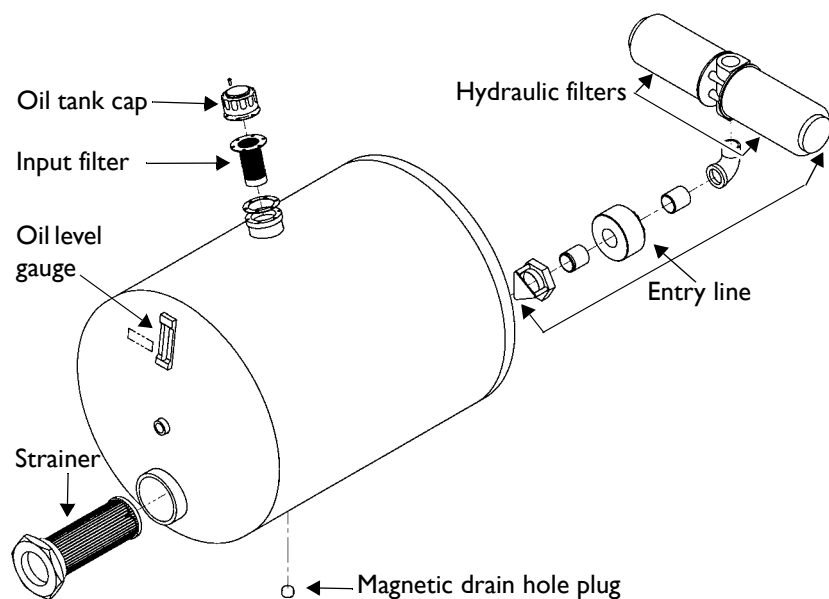

Figure 28
- 5.** Place an empty container (90 U.S gals/340 liters) under the drain hole of the tank to catch the oil (see *Figure 28*, below).
- 6.** Unscrew the drain hole's magnetic plug and let the oil drain completely from the tank (see *Figure 28* on page 60).
7. Place an empty container (90 U.S gals/340 liters) under the drain hole of the tank to catch the oil (see *Figure 28* on page 60).
8. Unscrew the drain hole's magnetic plug and let the oil drain completely (see *Figure 28* on page 60).
1. Remove the cap on top of the oil tank (see *Figure 28*, below).
2. Lift out the input filter located just under the cap (see *Figure 28*, below).
4. Unscrew and remove the strainer located on the side of the oil tank (see *Figure 28*, above).
6. Use a pipe wrench to disassemble the entry line (see *Figure 28*, above).
- Reach inside the tank through the strainer hole on one side (see *Figure 28*, above),
- Reach inside the tank through the entry line hole on the other side (see *Figure 28*, above).
11. Clean the magnetic plug with a rag and solvent and screw it back into the drain hole on the bottom of the oil tank (see *Figure 28*, above).